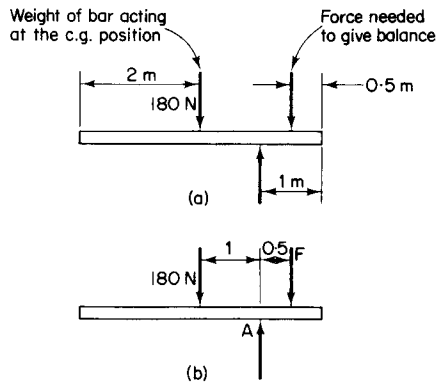

Fig. 2.43
**Example.** A uniform bar of metal 4 metres long and weighing 180 newtons is supported at 1 metre from one end. Find the force needed to balance the bar if this force is applied at 0.5 metre from the same end as shown in Fig. 2.43 (a).
The problem reduces to finding the force  $F$  in Fig. 2.43 (b)